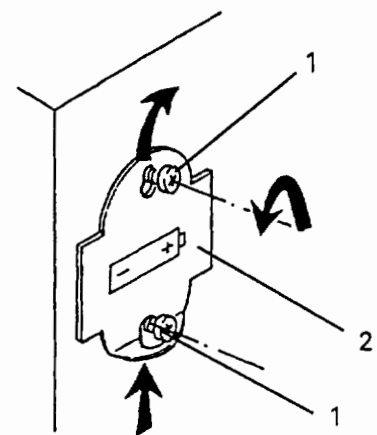

Figure 4-1 — Remove Battery Cover
- a. Release (do not remove) the two retaining screws (1) securing the battery cover (2) (Fig 4-1).
- b. Push the battery cover (2) up and remove the cover (Fig 4-1).